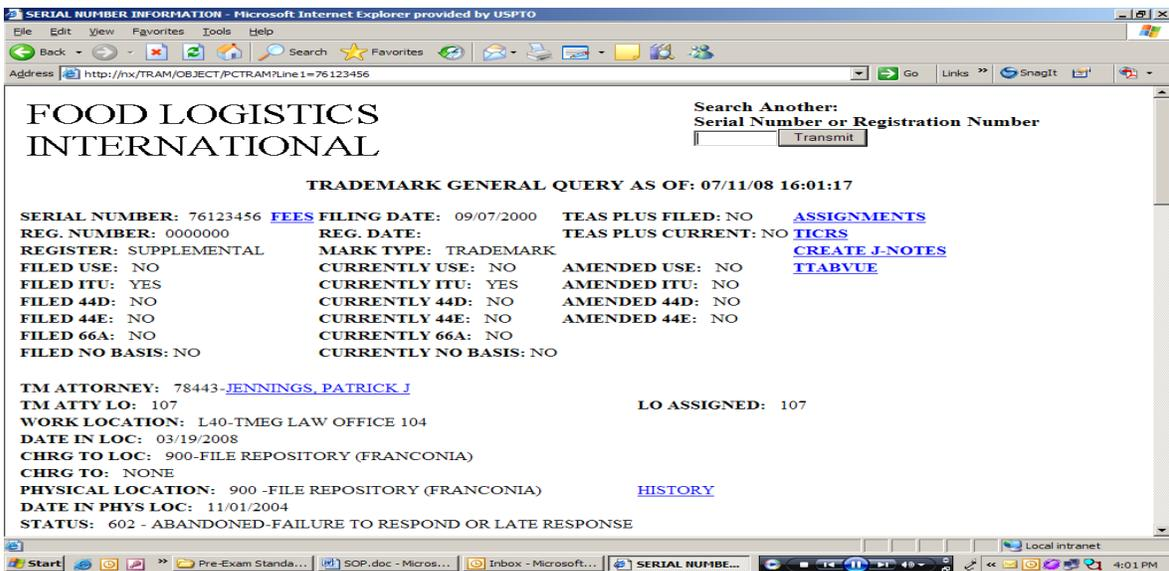

Figure 1-6: Trademarks' Electronic File Record in PC TRAM
Step 3: Click the “Transmit” button, which opens the trademark’s electronic file record (Figure 1-6).